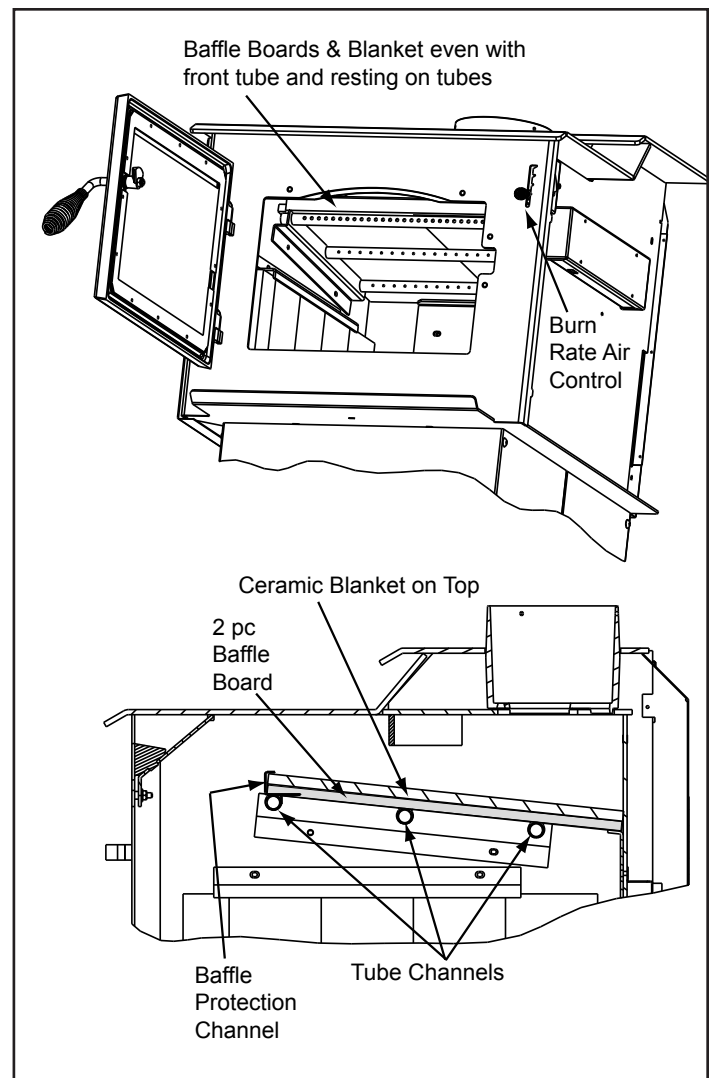

Figure 22.2
2. Remove the baffle protection channel by rotating it down from the front tube. **Figure 22.2.**